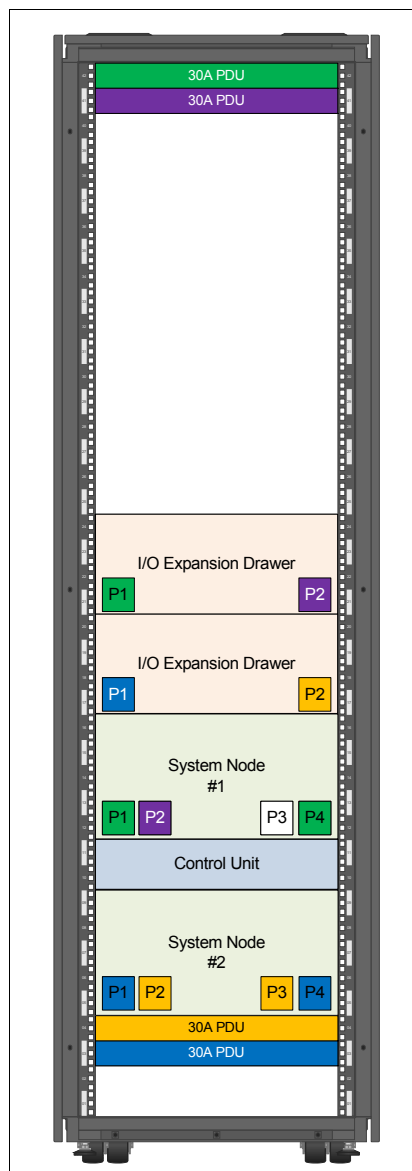

Figure 1-12 Two system node configuration and two I/O expansion drawers supplied by 30A PDUs
- For PDU #7109 and #7188 when using 24 Amp power cord #6654, #6655, #6656, #6657, or #6658, each pair of PDUs can power one Power E870 or Power E880 system node and two I/O expansion drawers, or eight I/O expansion drawers. 24A PDU cables are used to supply 30A PDUs. In Figure 1-12 on page 33, you can see the rack configuration with two pairs of 30A PDUs supplying a two system node configuration and two I/O expansion drawers.